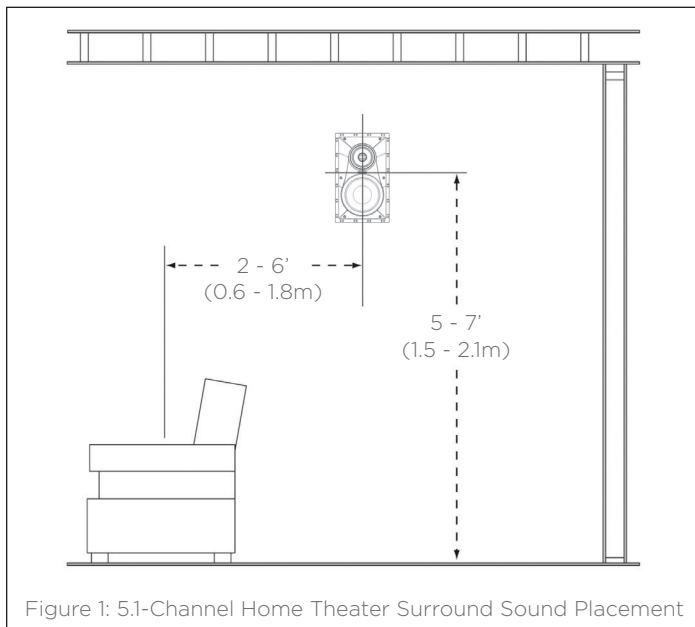

Figure 1: 5.1-Channel Home Theater Surround Sound Placement
Locate the surround channel speakers on the side walls 2 – 6 feet (0.6 – 1.8m) behind the listening position, 5 – 7 feet (1.5 – 2.1m) from the floor (see Figure 1).
1. Determine the location for the speaker (see Figures 1 and 2).